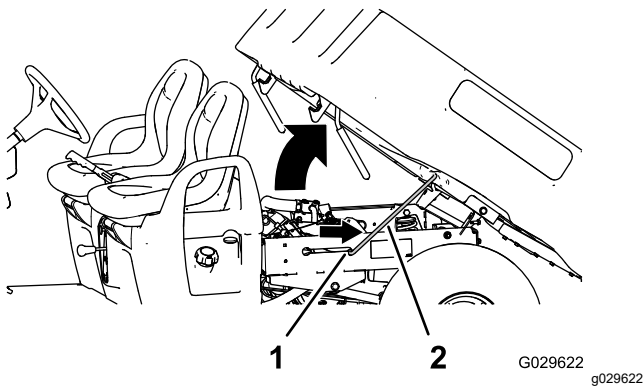

Figure 19
2. Pull the prop rod into the detent slot to secure the bed (Figure 19).
2. Pull the prop rod out of the detent slot (Figure 19).
3. Lower the bed until it latches securely into place (Figure 19).